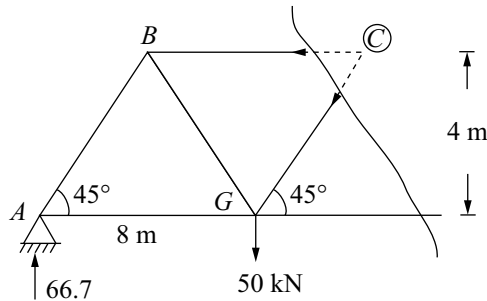

FIG. 2.42
3. If three forces F_{BC} , F_{GC} and F_{GF} are now applied to the portion of the frame concerned as shown in Fig. 2.42 then the portion of the frame will be in equilibrium under the action of the reaction 66.7 kN, applied 50 kN load and the forces F_{BC} , F_{GC} and F_{GF} .